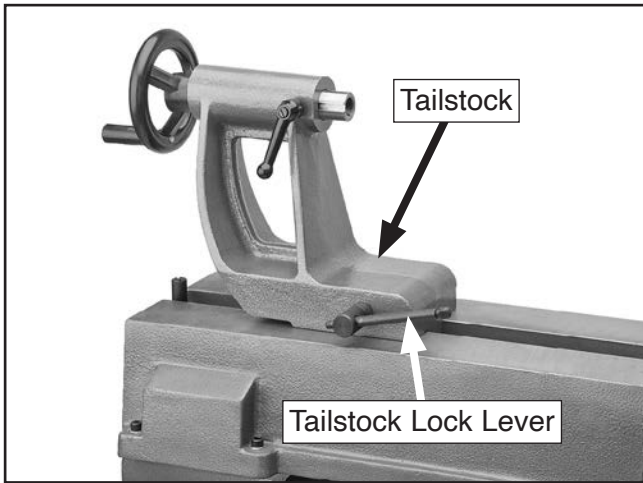

Figure 5. Example of tailstock positioned at end of lathe bed.
7. Loosen tailstock lock lever, slide tailstock to end of lathe bed opposite headstock, as shown in see **Figure 5** on **Page 3**, then tighten lock lever.